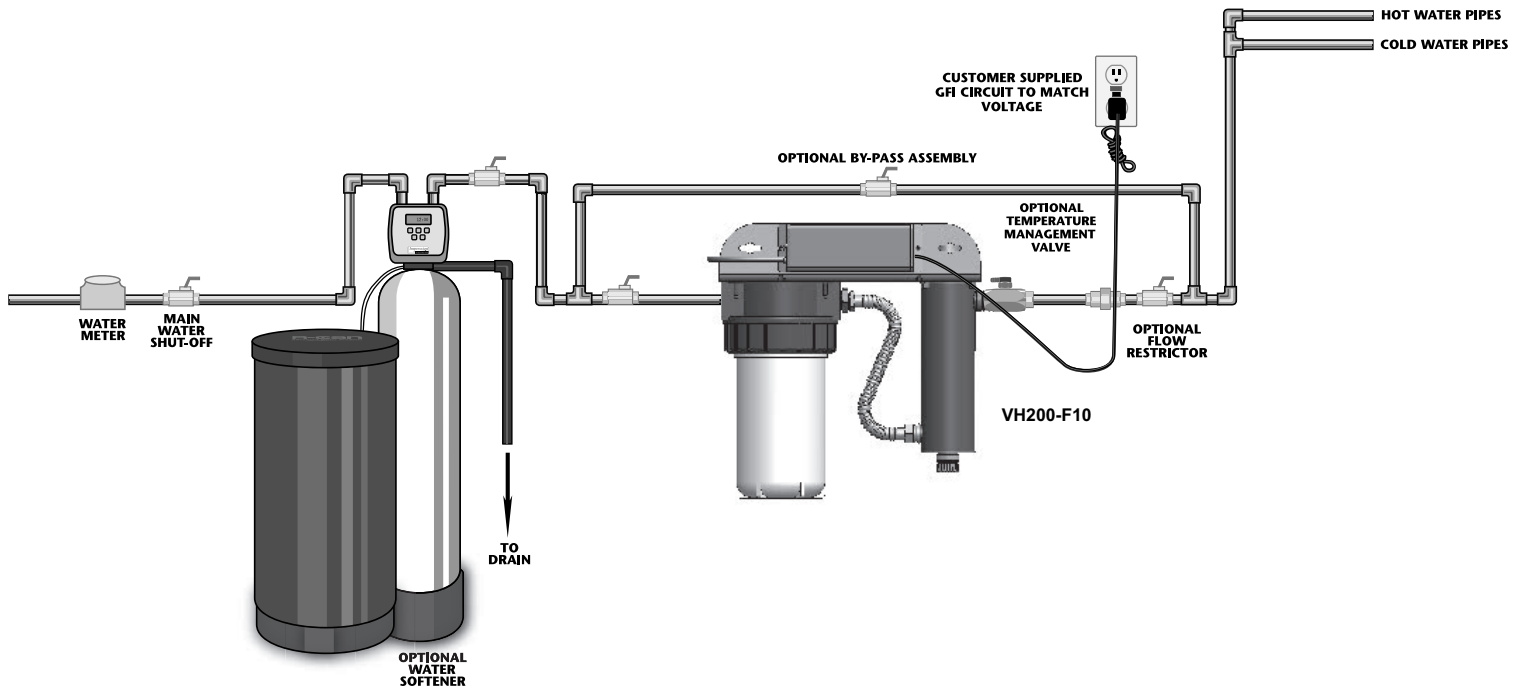

Figure 2 UV System
1. Figure 2 shows the installation of a typical drinking water system and the related components that may be used for the installation. The use of a bypass assembly is recommended in case the system requires “off-line” maintenance. If this is the case, it must be noted that the system will require supplementary disinfectant of the distribution system if any water is used during this bypass condition. In addition, during bypass, the water will NOT be treated and a “DO NOT CONSUME THE WATER” tag should be physically installed on the bypass assembly until such time as the system is cleaned and returned to service. Please refer to Section 3.2 for the complete cleaning procedure. If the water is to be consumed while the system is off-line, the water must be boiled for two minutes prior to consumption.